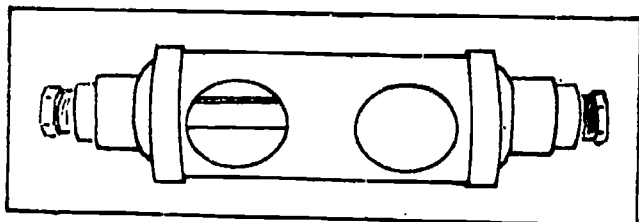
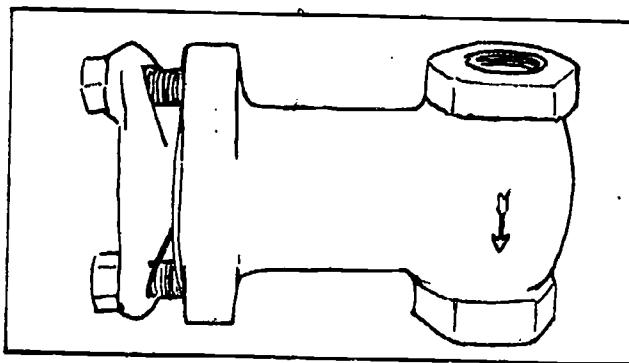

Fig 2-15. Liquid line strainer.
Fig 2-16. Cleanable scale trap.
a. Strainers and scale traps. Dirt and foreign matter have a way of entering a system no matter how hard you try to keep them out. These particles will clog small openings and deposit themselves on valve seats and mechanisms, causing improper operation of the system. In order to separate this foreign matter from the refrigerant flow, strainers or scale traps are used. They can be inserted in either the liquid or the suction line. Strainers can be constructed of fine wire mesh, asbestos, steel wool, and sometimes glass wool enclosed in a metal container. Scale traps are usually constructed with wire mesh which is removable for cleaning. There are basically two types, cleanable and noncleanable. When a strainer or trap becomes clogged, there will be a temperature difference between its inlet and outlet. When this happens, either clean it or replace it. A strainer placed in the liquid line just before the metering device helps prevent valve trouble and lengthens compressor life. Figure 2-15 shows a sectional view of a liquid line strainer and figure 2-16 shows a cleanable scale trap.